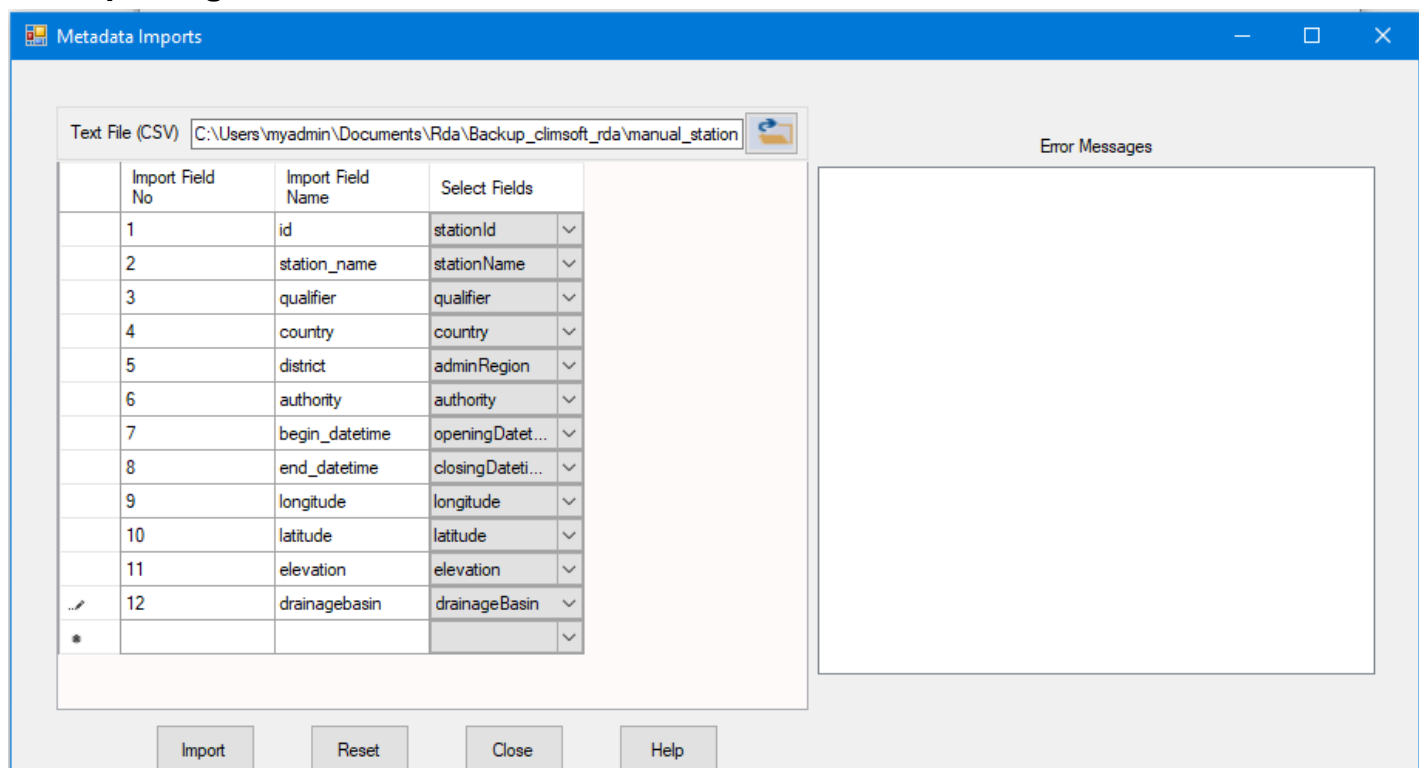

Figure 12: Importing stations metadata
- **Import** – Opens a dialog through which stations metadata in a text (csv) can be imported into Climsoft. By clicking the **Import** Command button the dialog in Figure12 below appears;
- From the Metadata Import dialog, Figure 12, open and locate  the text file containing the stations metadata;